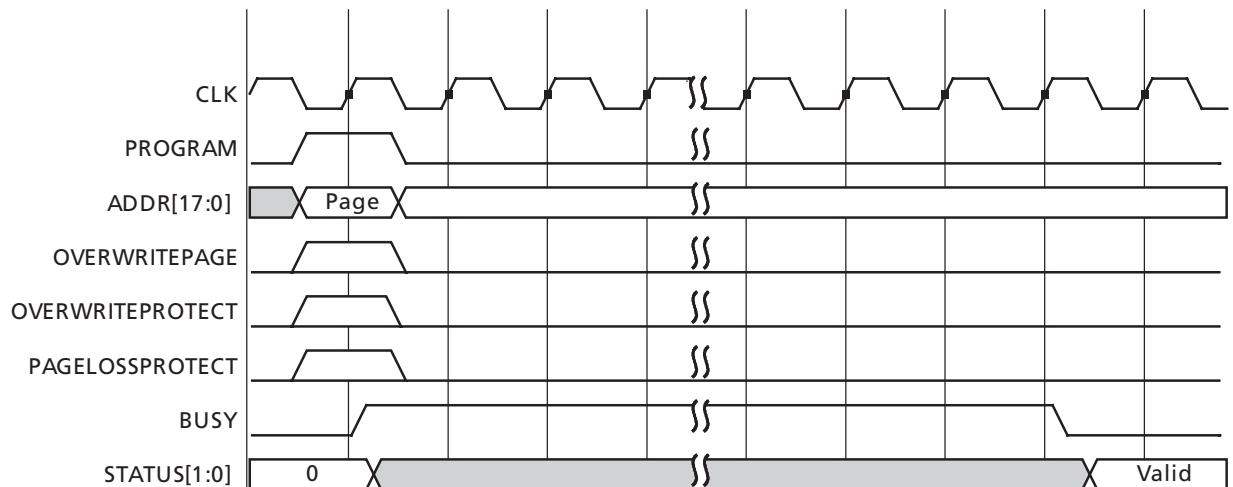

Figure 2-35 • FB Program Waveform
- The waveform for a Program operation is shown in Figure 2-35.